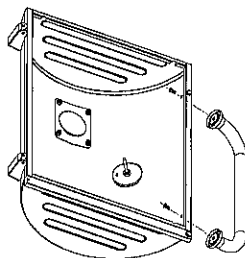

Fig. 20E
Refer to Fig. 20E and attach the Lid Handle to the Lid with (2) M6x15 bolts.